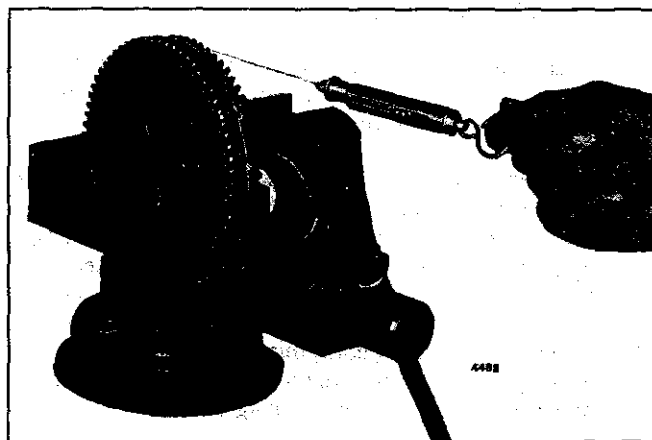

Fig. 11 - Checking Pre-Load of Idler Gear Bearing
4. Tie one end of a piece of lintless 1/8" cord around a 1/8" round piece of wood (or soft metal stock). Place the wood between the teeth of the gear, then wrap the cord around the periphery of the gear several times. Attach the other end of the cord to a spring scale, J 8129 (Fig. 11). Maintain a straight, steady pull on the scale, 90° to the axis of the hub, and note the pull, in pounds and ounces, required to start the gear rotating. Make several checks to obtain an average reading. If the pull is within 1-1/4 lb. minimum to 6 lbs. 12 ounces maximum and does not fluctuate more than 2 lbs. 11 ounces, the idler gear and bearing assembly are satisfactory for use.